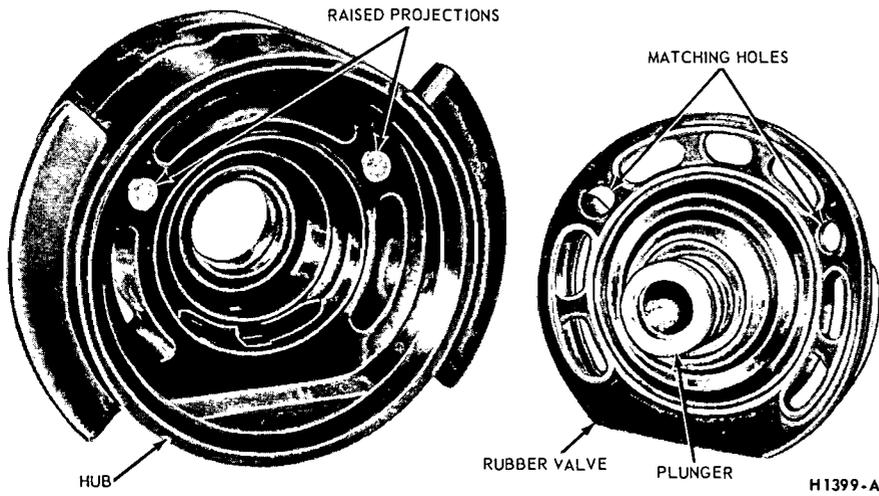

FIG. 50—Assembling Valve Plunger to Hub—Midland-Ross
1. Assemble the control valve plunger assembly into the control hub so that the round holes in the rubber valve index with the raised projections on the hub, and the flat on the valve plate indexes with the flat projection on the hub (Fig. 50). Compress the valve spring, and install the retainer in the plunger groove to secure the control valve plunger to the control hub (Fig. 48).